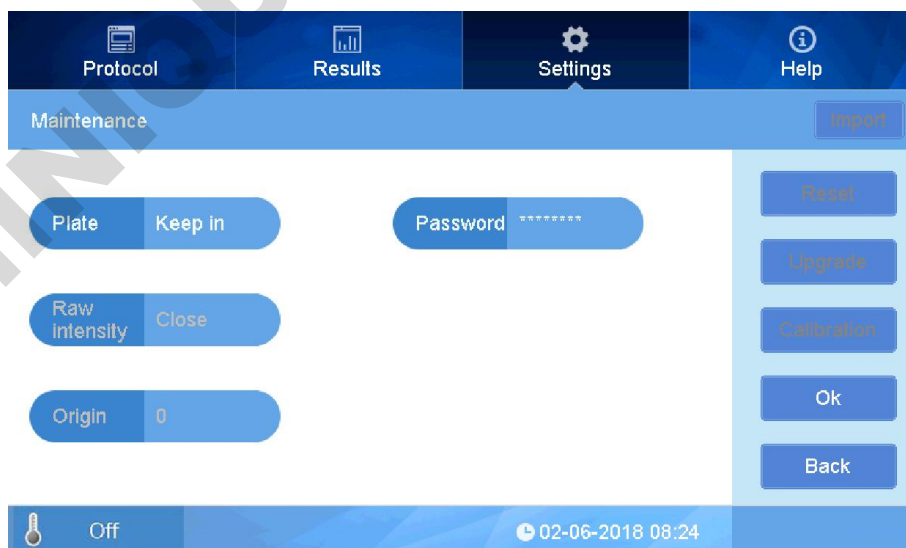

fig 51
- Click "Maintenance" to enter into interface(Fig 51).